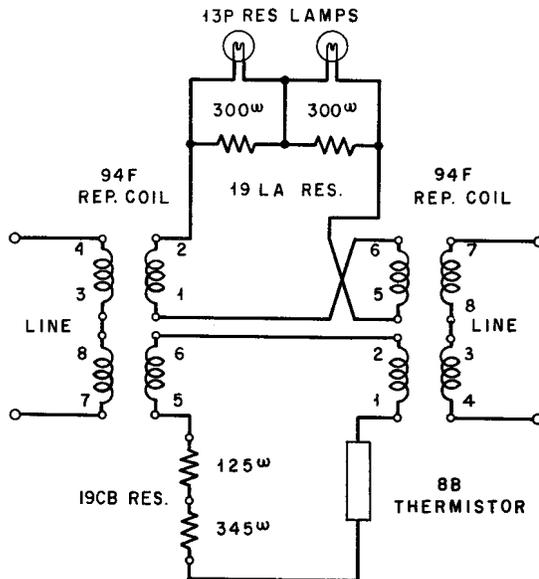

Fig. 1 - Simplified Schematic of Volume Limiter
2.01 A simplified schematic of the volume limiter circuit is shown in Fig. 1. The circuit consists of two repeating coils and several resistive elements connected in a hybrid circuit.